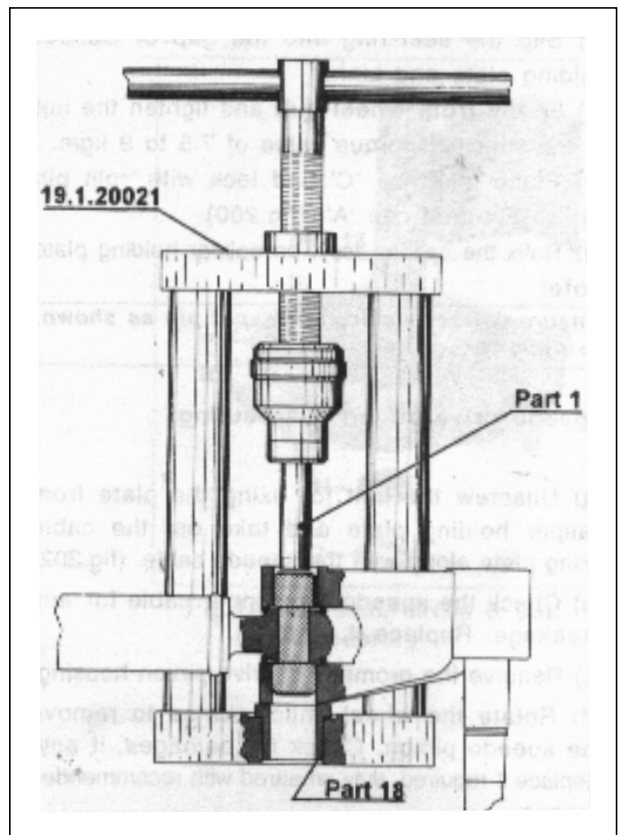

Fig. 205-Fixture for overhauling front suspension link with serviceable attachments.
- (a) **Operation:** Attach fixture 19.1.20021 alongwith part 1 at the top and part 18 at the bottom to steering column and link assembly (fig.205)